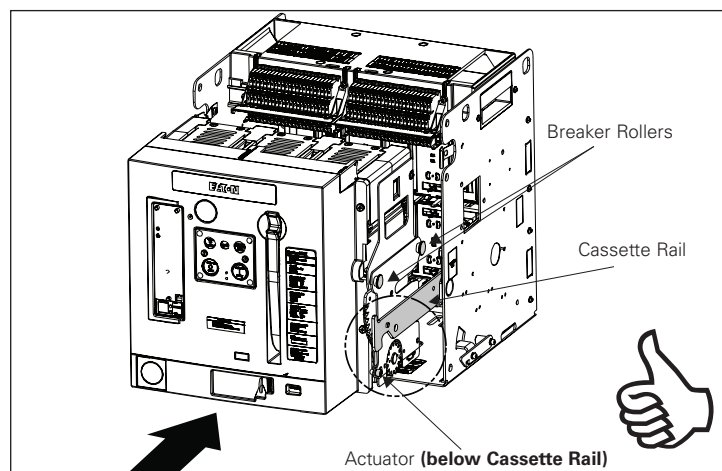
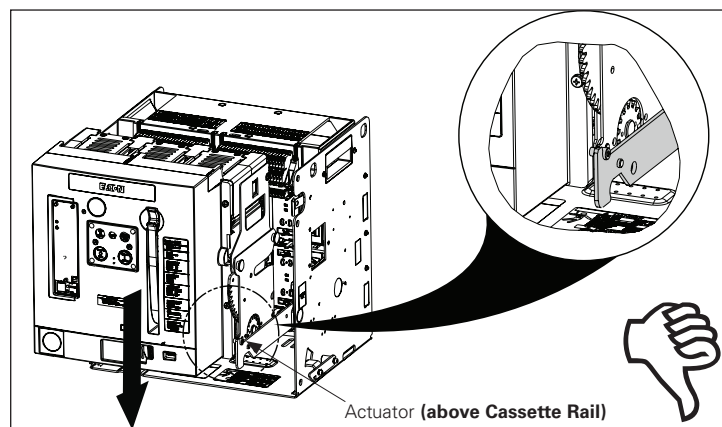

Figure 13. Step 1
Figure 14. Step 1
Step 1: Return the breaker to the cassette rails by installing it from the front as shown in Figure 13, ensuring the rails are guided between the actuator and the breaker rollers. If the breaker is placed on the cassette rails directly from the top (Figure 14), the actuator installed in Section 3 can catch on the rails causing the breaker to become unbalanced.